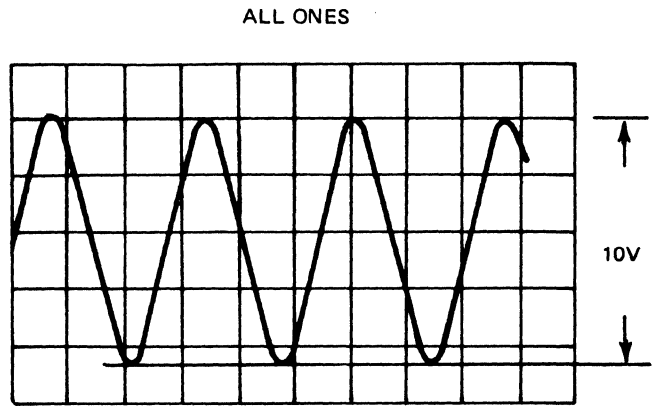

Figure 5-5. Amplifier Waveforms
- h. Adjust potentiometer R117 until the analog signal displayed on the oscilloscope is 10 volts peak to peak (figure 5-5).